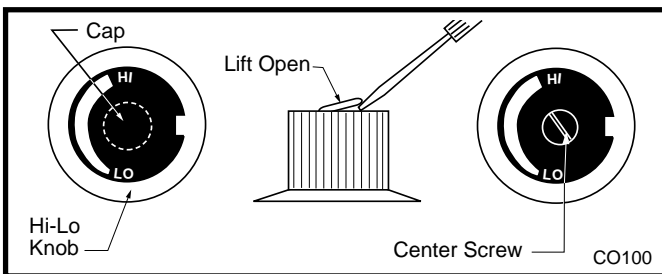

Fig. 58 Remove center screw from Hi-Lo knob.
10. Remove cap from Hi-Lo knob. This can be accomplished by lifting the plastic cap off the screw. (Fig. 58)
11. Remove the screw from center of Hi-Lo knob with small screwdriver turning counterclockwise. (Fig. 58)